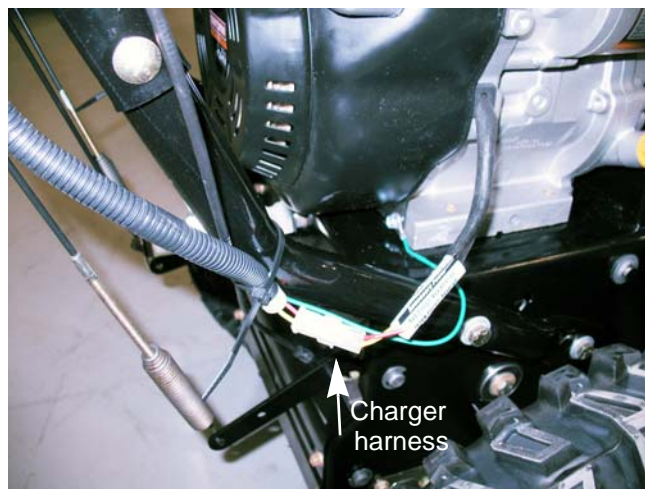

Figure 6.16
1. Locate the charger harness. It will be by the right handle bar of the snow thrower when the engine is installed. See Figure 6.16.